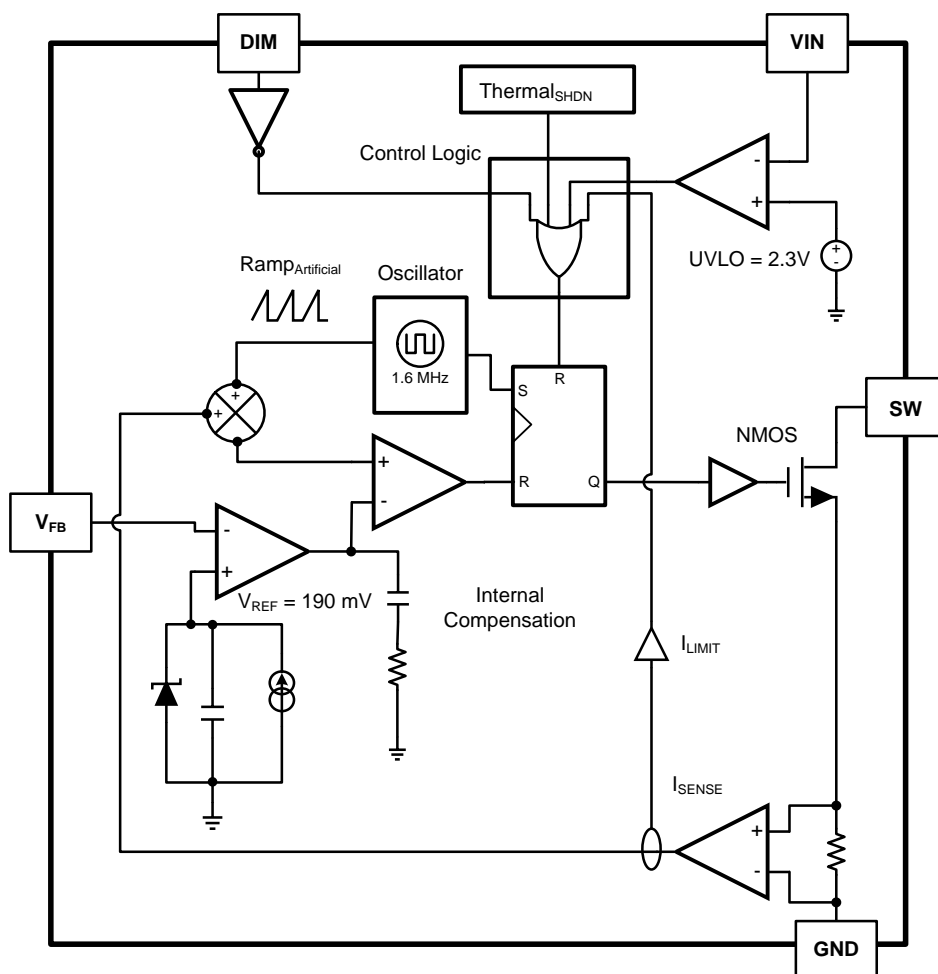
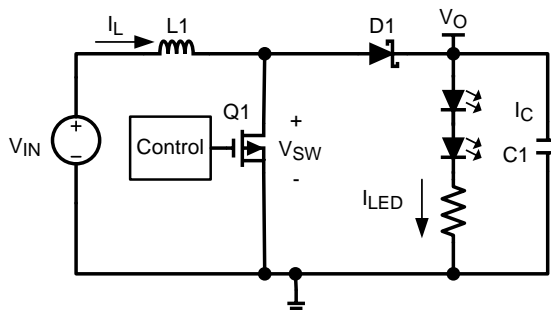
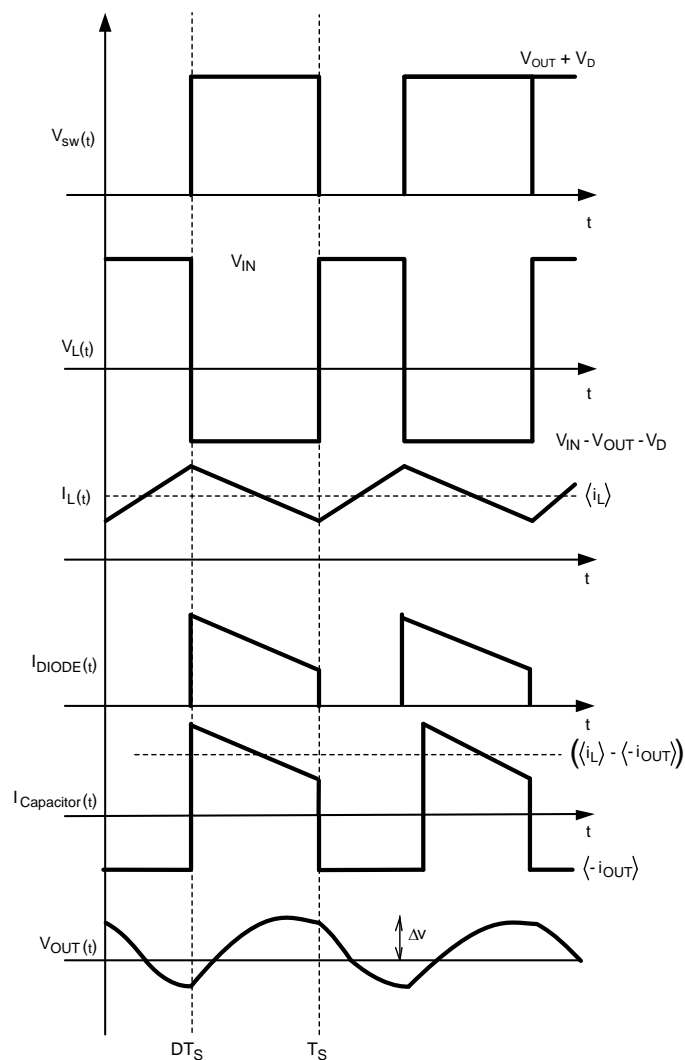

Figure 13. Simplified Block Diagram
Figure 14. Simplified Boost Topology Schematic
Figure 15. Typical Waveforms
The LM3410 is a constant frequency PWM, boost regulator IC. It delivers a minimum of 2.1A peak switch current. The device operates very similar to a voltage regulated boost converter except that it regulates the output current through LEDs. The current magnitude is set with a series resistor. This series resistor multiplied by the LED current creates the feedback voltage (190 mV) which the converter regulates to. The regulator has a preset switching frequency of either 525 kHz or 1.60 MHz. This high frequency allows the LM3410 to operate with small surface mount capacitors and inductors, resulting in a DC/DC converter that requires a minimum amount of board space. The LM3410 is internally compensated, so it is simple to use, and requires few external components. The LM3410 uses current-mode control to regulate the LED current. The following operating description of the LM3410 will refer to the Simplified Block Diagram (Figure 13) the simplified schematic (Figure 14), and its associated waveforms (Figure 15). The LM3410 supplies a regulated LED current by switching the internal NMOS control switch at constant frequency and variable duty cycle. A switching cycle begins at the falling edge of the reset pulse generated by the internal oscillator. When this pulse goes low, the output control logic turns on the internal NMOS control switch. During this on-time, the SW pin voltage (V_{SW}) decreases to approximately GND, and the inductor current (I_L) increases with a linear slope. I_L is measured by the current sense amplifier, which generates an output proportional to the switch current. The sensed signal is summed with the regulator's corrective ramp and compared to the error amplifier's output, which is proportional to the difference between the feedback voltage and V_{REF} . When the PWM comparator output goes high, the output switch turns off until the next switching cycle begins. During the switch off-time, inductor current discharges through diode D1, which forces the SW pin to swing to the output voltage plus the forward voltage (V_D) of the diode. The regulator loop adjusts the duty cycle (D) to maintain a regulated LED current.